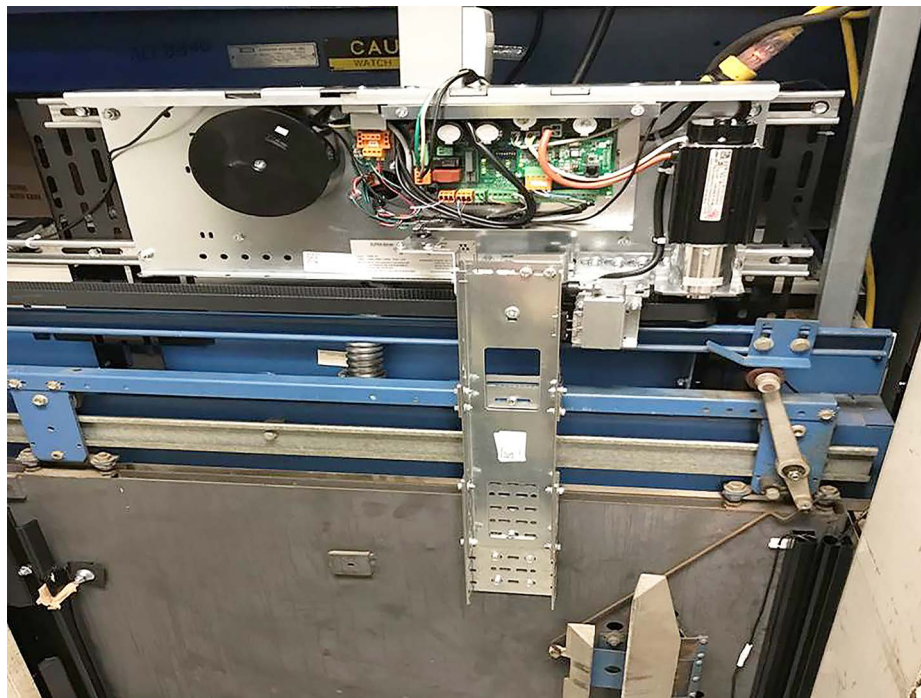
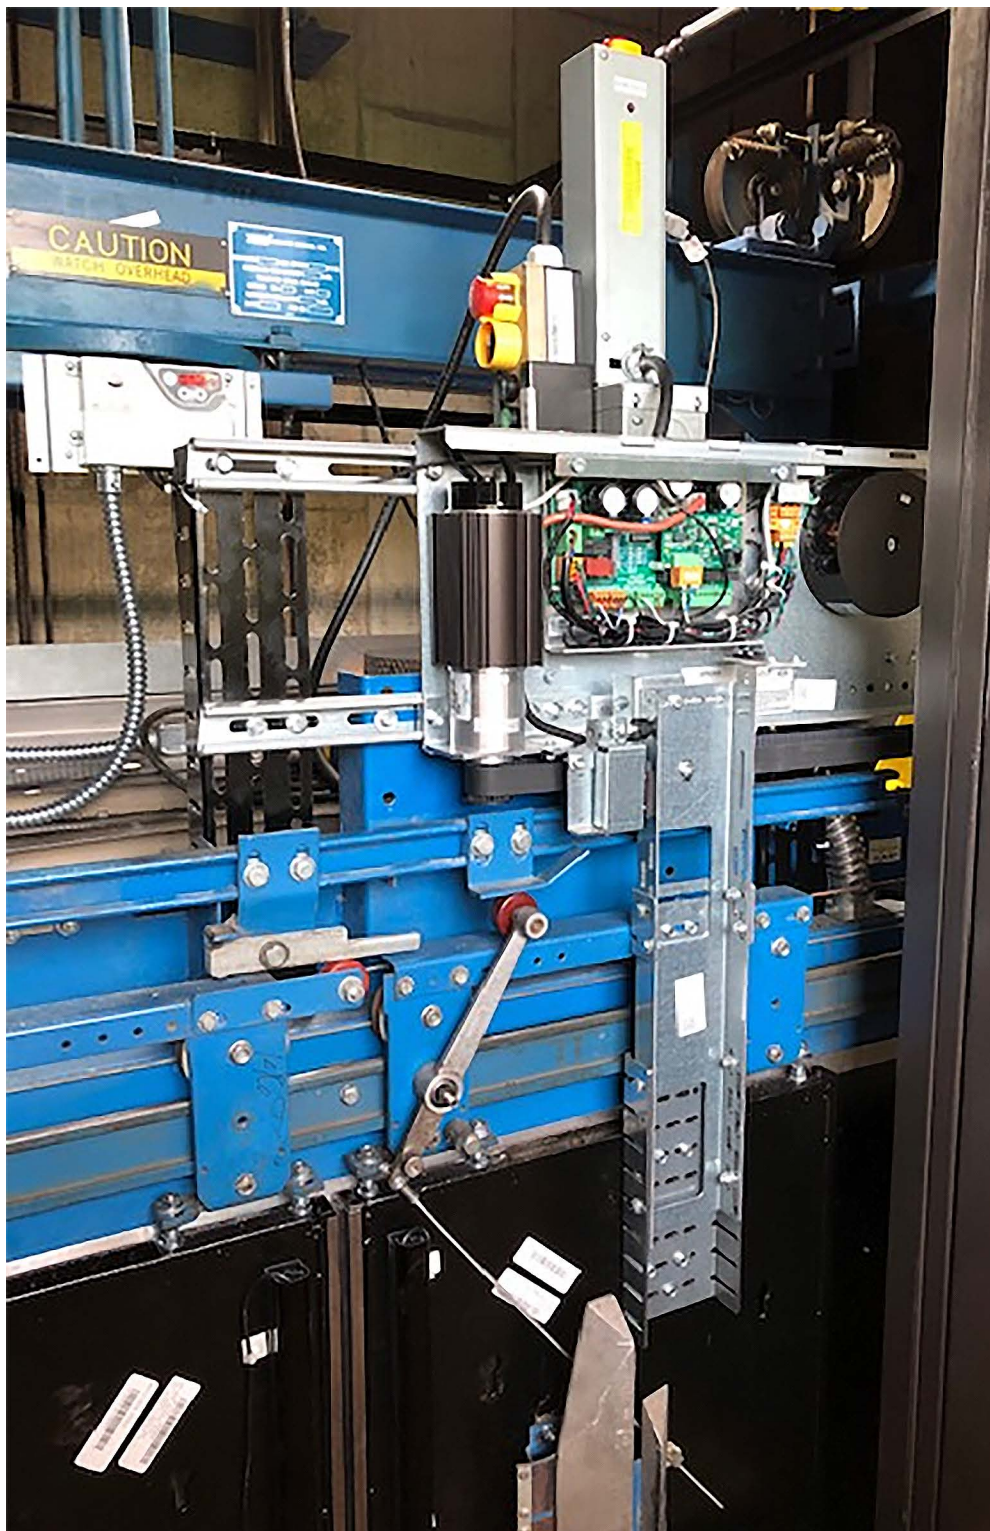

Figure 13 - Installed Door Controller Wiring (SS)
Figure 14 - Installed Door Controller Wiring (CO)
14. Install the following wiring components. For complete installation, see Figure 13 (SS) and Figure 14 on page 17 (CO).